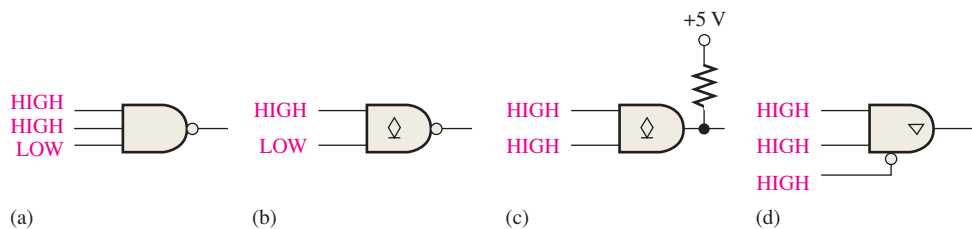

FIGURE 15-56
17. Determine the output state of each TTL gate in Figure 15-56.